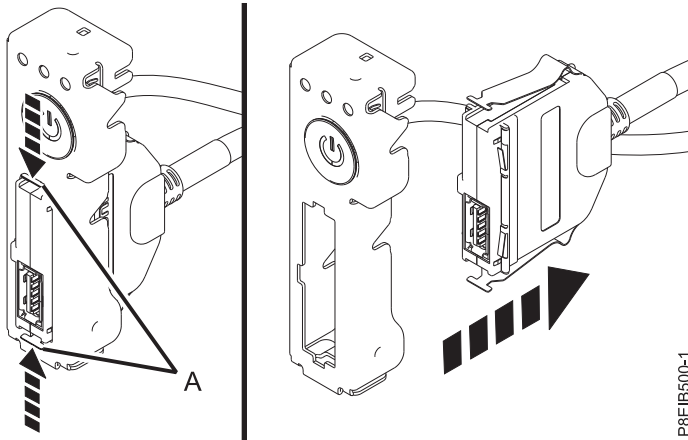

Figure 23. Removing front USB cable and connector from power switch
10. Pressing the latch releases (A) on the connector, disconnect the front USB cable and connector from the power switch. See Figure 23 on page 27.